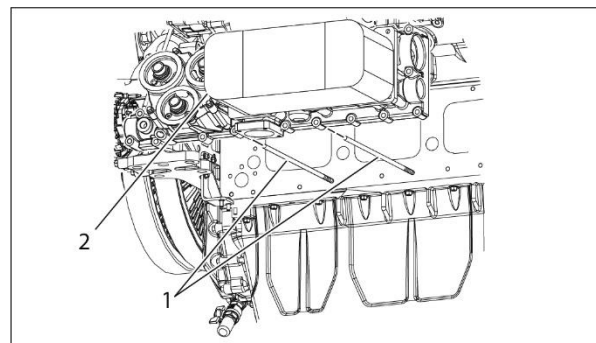
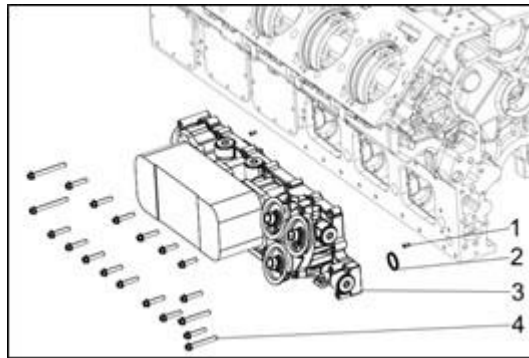

Figure 171
Figure 172
2. Install the two threaded alignment rods (Figure 171, item 1) into any two of the holes that will be used for the fixed bolts (Figure 172, item 4).
3. Install the oil cooler seat (Fig 172, item 3), install the locating pin (Fig 172, item 1) firstly, pay attention to the O-ring (Fig 172, item 2). Install and tighten the fixed bolts (Fig 172, item 4), except the remaining two where the two threaded alignment rods are installed. After the bolts are tightened, remove the two threaded alignment rods and install and tighten the remaining fixed bolts.